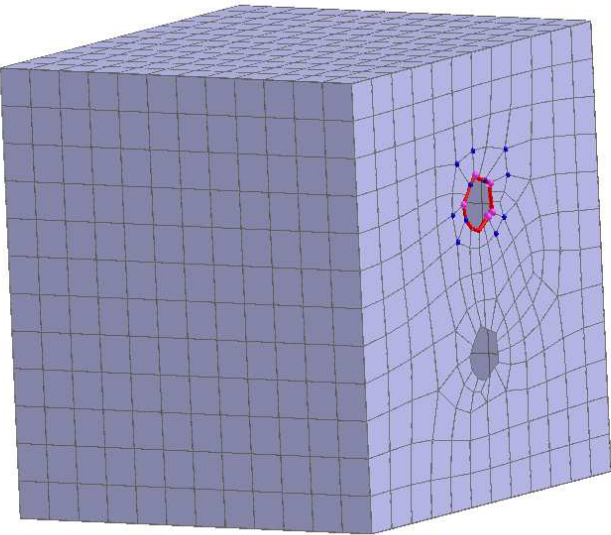

Figure 9.13: Pick nodes to create a seam.
- Pick the nodes until you see a circular seam following the edge of the hole as shown in Figure 9.13.